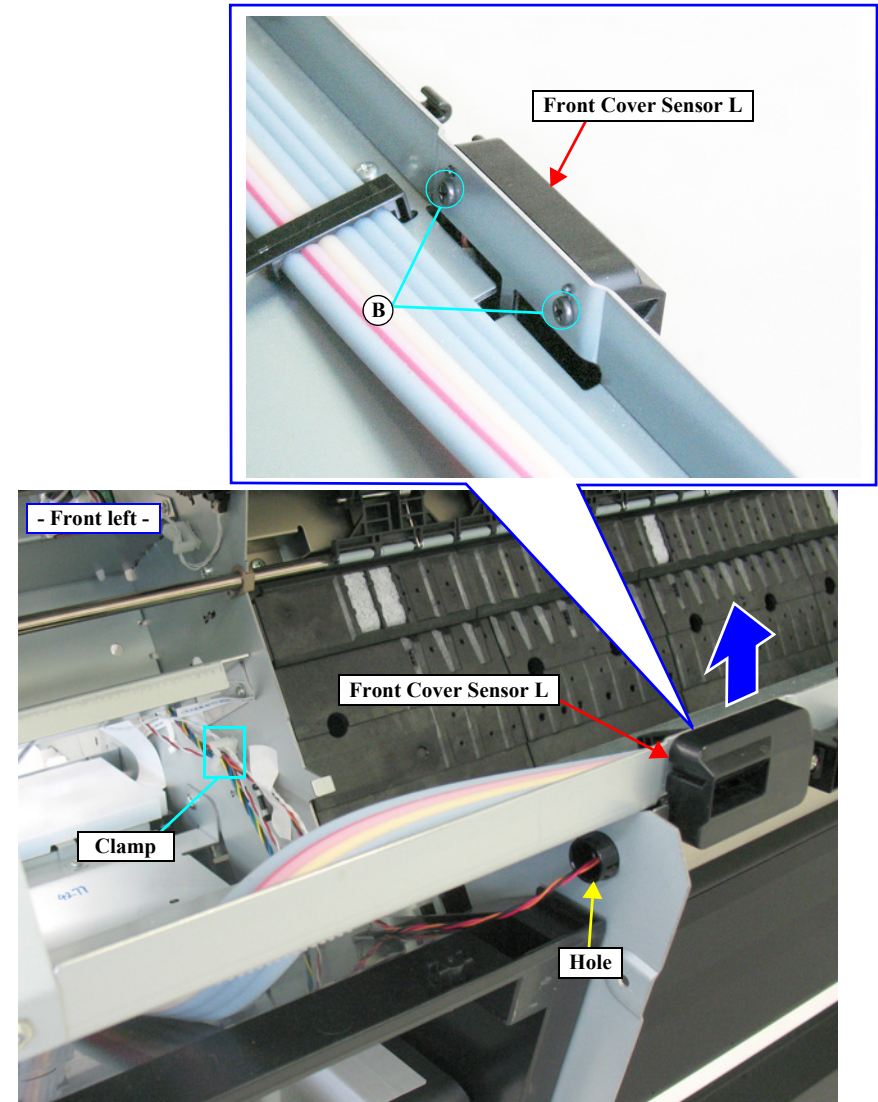

Figure 4-38. Removing the Front Cover Sensor L
9. Release the cables from the clamp. *See Figure 4-38.*